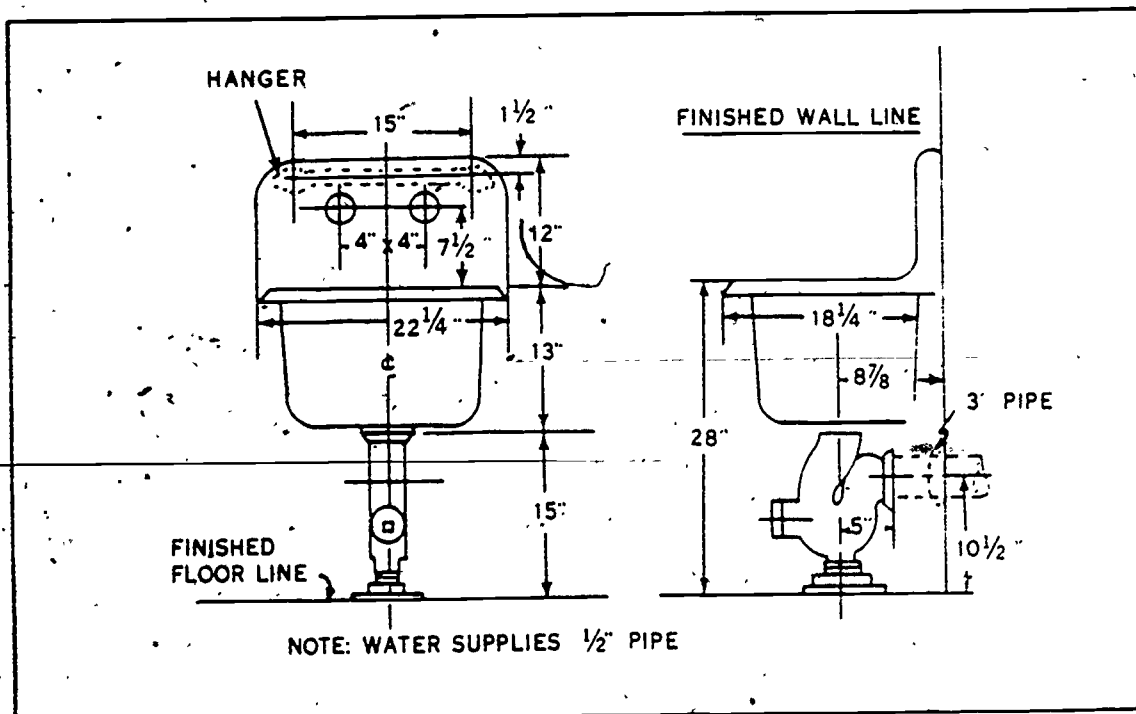

Figure 5-21. Rough-in specifications for a utility sink.
**Installation of utility sinks.** The utility sink installation is similar to the kitchen sink installation. The utility sink is also mounted on a bracket and mounting board. In addition to the hanger, the utility sink also has a built-in adjustable stand trap which bolts to the floor and provides a pedestal support. The stand trap should be adjusted to take most of the weight off the hanger and prevent the unit from sagging. After the fixture has been set in place, the waste line is connected to the water supply. Then, the unit is ready for use. Typical rough-in specifications that will aid the plumber when installing a utility sink are shown in figure 5-21.
**Exercises (450):**